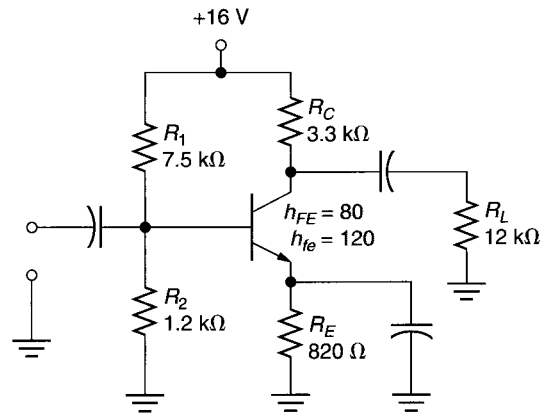

FIGURE 9.31
8. Determine the value of  $r'_e$  for the circuit shown in Figure 9.31.
10. Derive the ac equivalent circuit for the amplifier shown in Figure 9.31. Include all component values.
20. Determine the value of  $A_v$  for the amplifier in Figure 9.31.
24. The amplifier in Figure 9.31 has a 22 mV input signal. Determine the value of  $v_{out}$  for the circuit.
26. Determine the value of  $A_p$  for the circuit shown in Figure 9.31. Assume that the circuit has a value of  $A_i = 11$ .
32. Calculate the open-load voltage gain for the circuit shown in Figure 9.31.
36. Determine the values of  $Z_{in(base)}$  and  $Z_{in}$  for the amplifier in Figure 9.31.